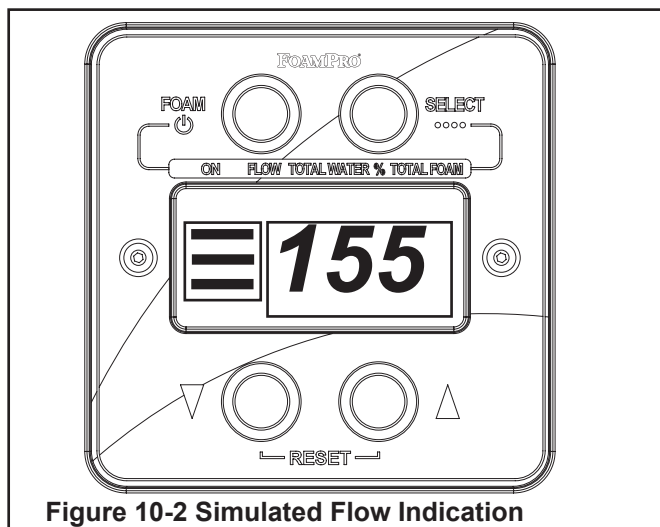

Figure 10-2 Simulated Flow Indication
- Operate the fire truck engine so that hydraulic oil pressure is available. Put the system in “Simulated Flow Mode” by selecting the **FLOW** display and depressing **RESET**, (both UP and DOWN buttons simultaneously). Increase simulated flow by pressing the UP button to permit easier priming (above 250). The display will show  $\equiv$  to indicate the simulated flow (See Figure 10-2).